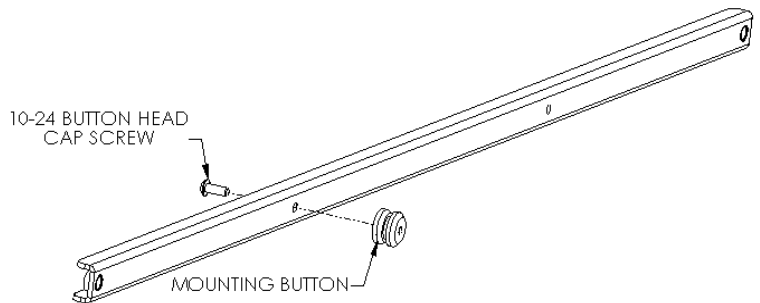

Figure 3
2. Attach center brackets to side brackets using the 1/4-20 screws (see Figures 3 & 4).